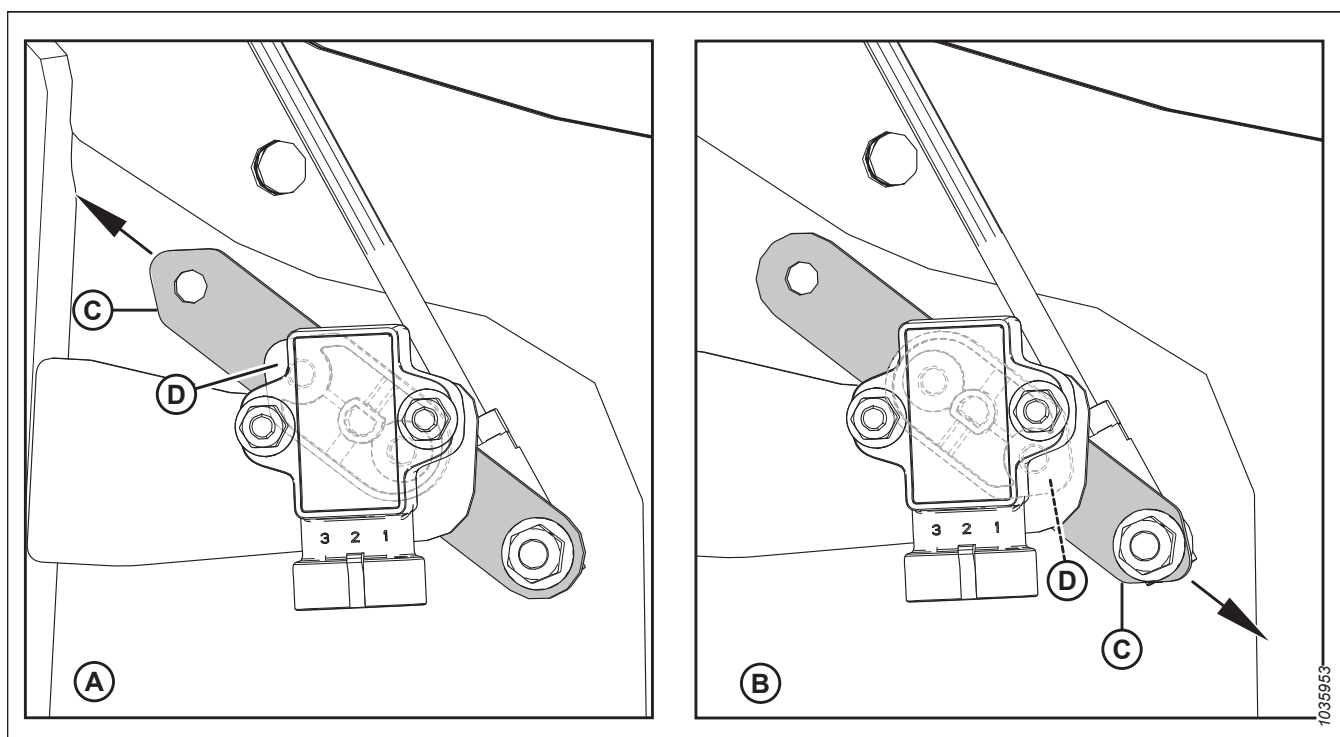

Figure 3.329: Sensor Arm/Pointer Configurations
4. Check that sensor arm (C) and pointer (D) are configured properly for your machine, refer to Figure 3.329, page 214.